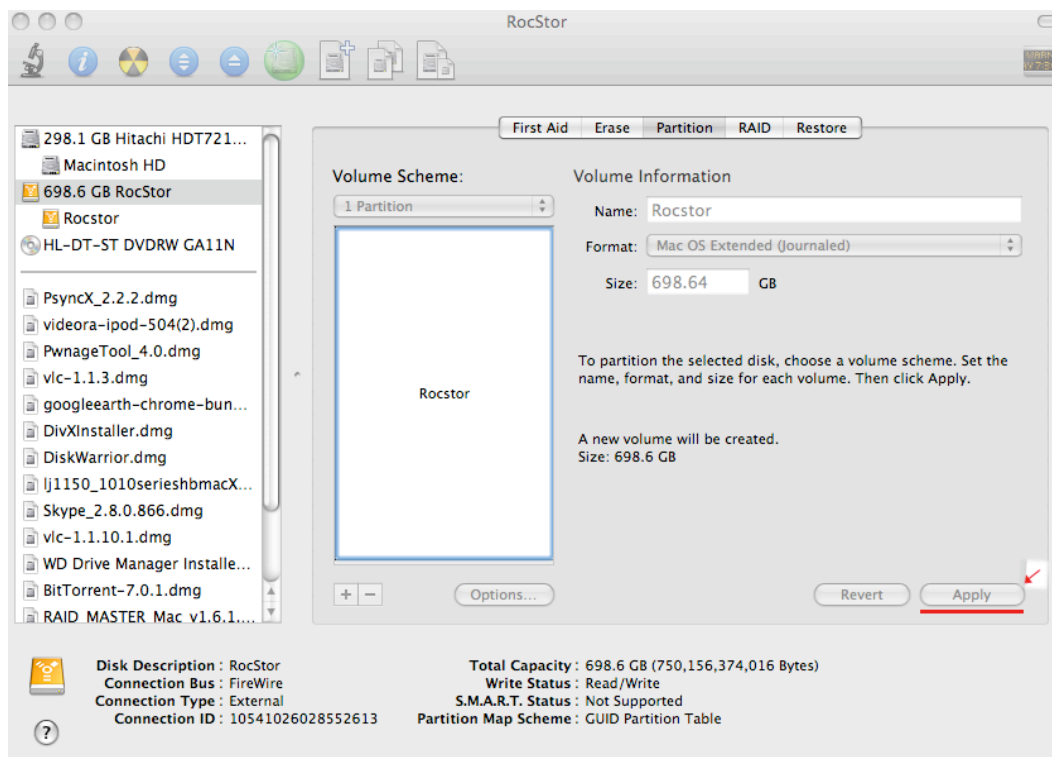
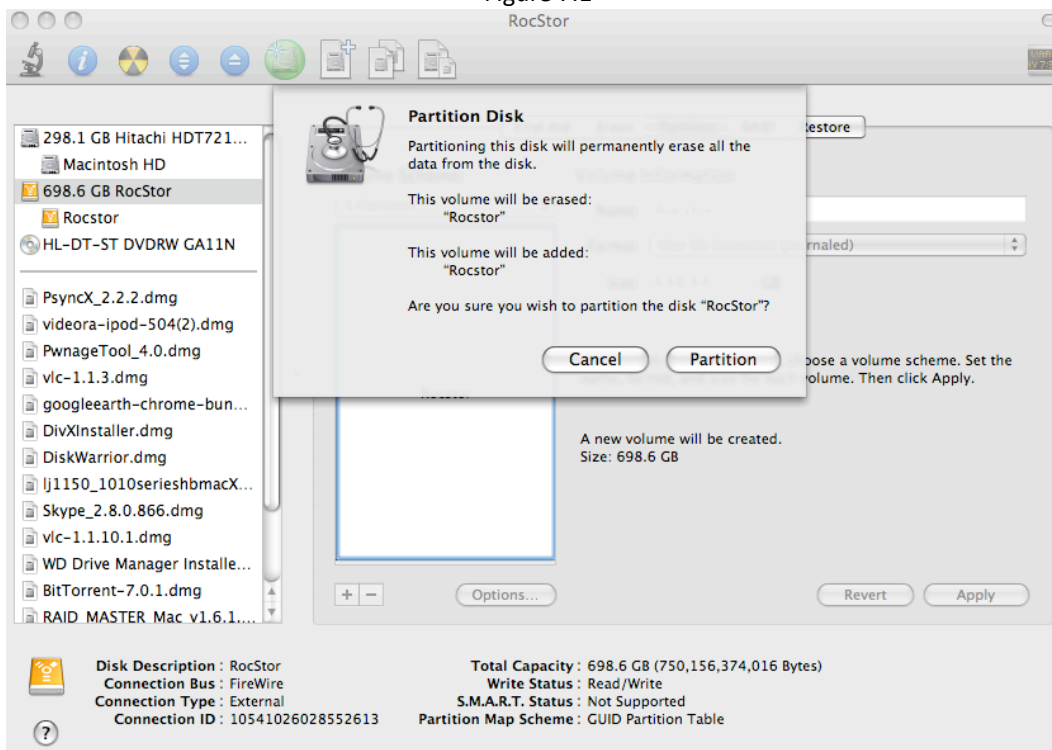

Figure 7.1
Figure 8.0
14. After selecting the type of format, click the **“Apply”** tab in the lower right of the screen, (figure 7.1.) On the next screen, Partition Disk, click **“Partition”** (figure 8.0)